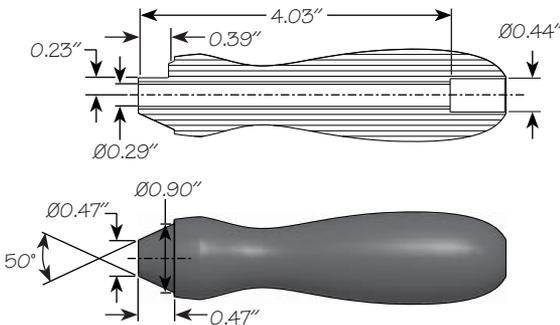

Figure 4: Handle template.
While the handle shape has been carefully developed to offer the best comfort level, we recognize that every woodworker has a preferred handle type. You may want to modify the existing handle, or make your own from scratch. You can make your handle any size or shape that fits your hand; however, keep in mind the dimensions for the tapered tenon, the depth of the counterbore for the handle nut and the notch in the tapered tenon (see **Figure 4**) to ensure your handle will fit properly into the spine socket.
1. The taper angle on the tenon is sized to fit into the spine, so it needs to be accurately created; however, the tenon itself can be a little larger in diameter than the dimensions shown in **Figure 4**.
2. The hole diameter for the handle nut needs to be as shown in **Figure 4**, while the depth of the hole for the handle stud can be slightly deeper than the 4.03" shown (such that the counterbore for the handle nut is slightly shallow to start with).